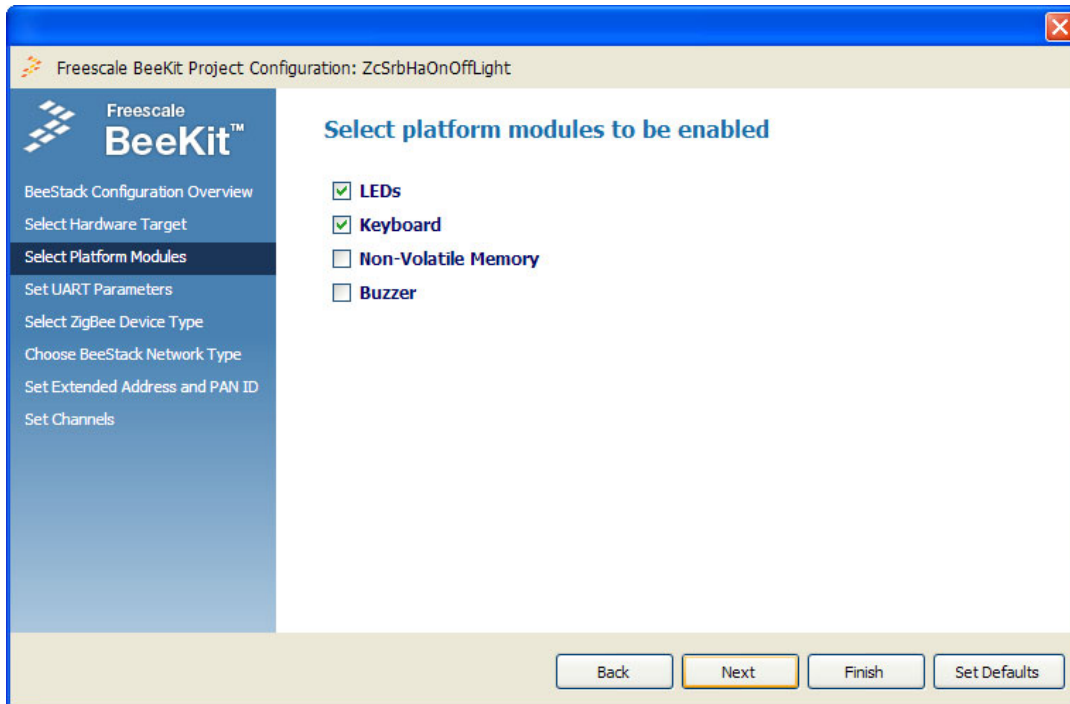

Figure 3-5. Platform Modules Page
2. Select the MC1321x-SRB radio button and click on the Next button. The Platform Modules page appears as shown in Figure 3-5.